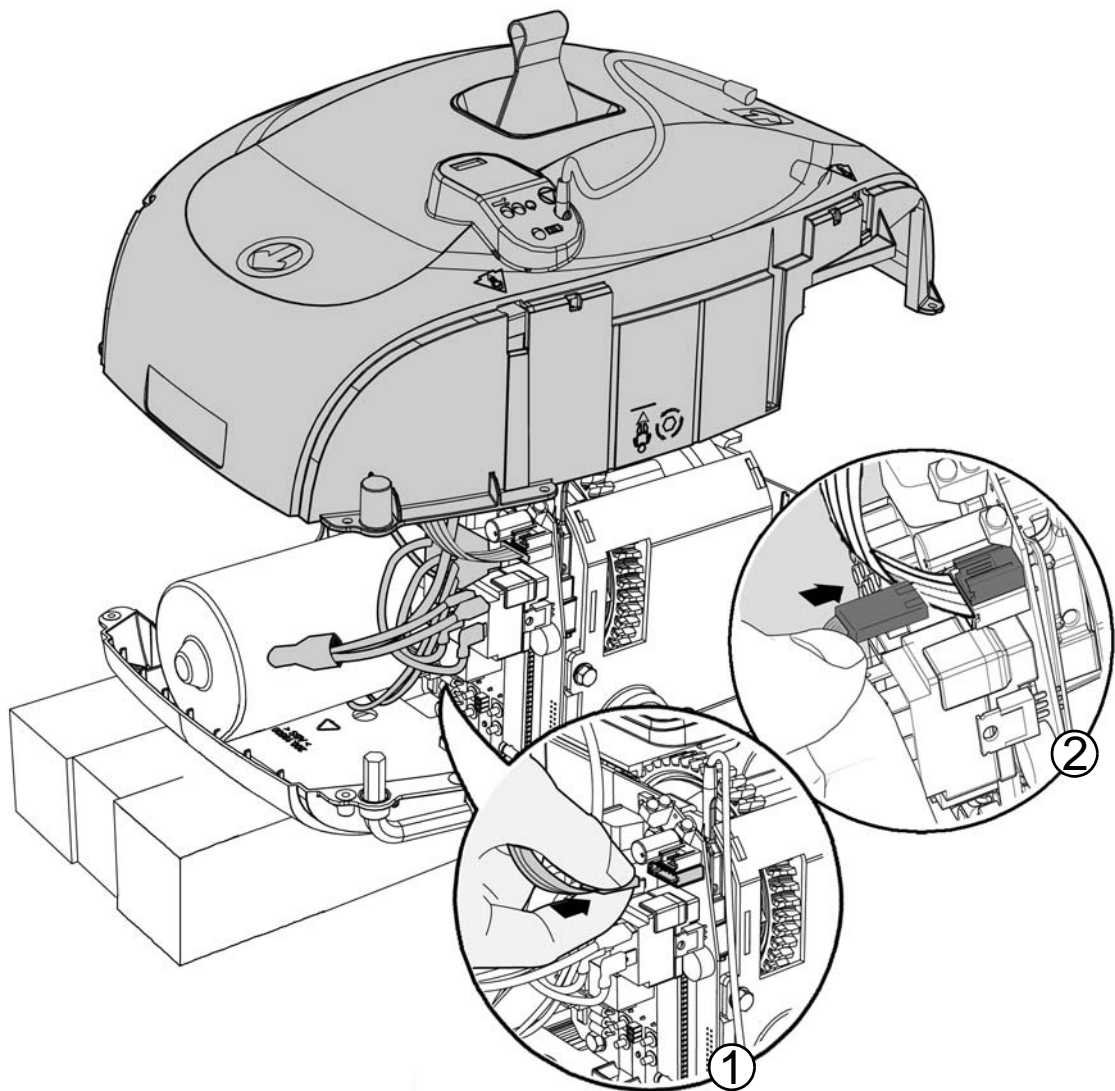

Fig. 34
- ① Plug the membrane for the alternative up/down switches located on the unit, as well as the SWL key membrane, if applicable (see Fig. 34).
- ② Reposition the handset extension cable socket in its slot on the plastic housing.
- ③ Reinstall the screws that secure the plastic housing parts together.
- ② Remove the screws that secure the top plastic housing.
- ③ Unplug the membrane for the alternative up/down switches located on the unit, as well as the SWL key membrane, if applicable (see Fig. 34).
- ④ Unplug the main circuit connector.
- ① Plug in the main circuit connector
- ② Plug the membrane for the alternative up/down switches located on the unit, as well as the SWL key membrane, if applicable (see Fig. 34).
- ③ Replace the top plastic cover and secure it with the plastic screws.
- ⑤ With an extractor tool, disconnect the two horizontal motor wires from the main circuit harness and replace them with the ones from the new motor.